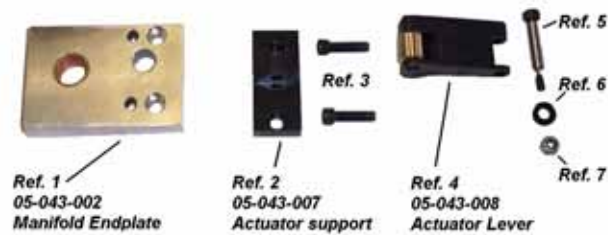

Figure 3. Removable components of the hydraulic manifold.
2. Remove the actuator lever (Figure 3, Ref. 4), actuator support (Figure 3, Ref. 2), and the manifold endplate (Figure 3, Ref. 1) from the hydraulic manifold.